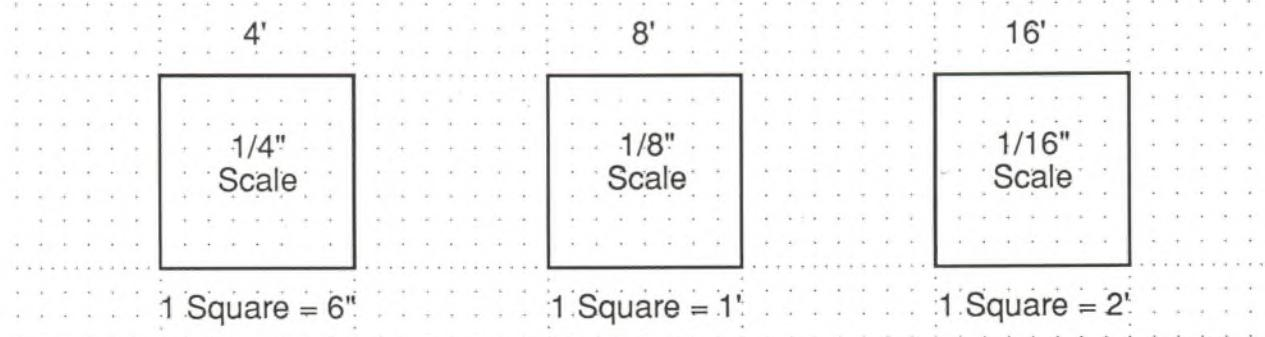

Fig. 3.6 Compare three squares of the same size measured in three different scales.
2. Try measuring and drawing the squares in Fig. 3.6, using the $1/4"$, $1/8"$ and $1/16"$ scales.